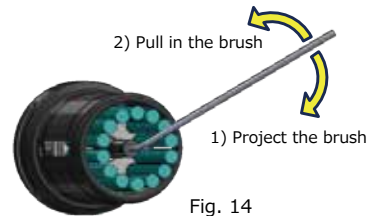

Fig. 14
- 1) Insert a hexagonal wrench into the hexagonal wrench notch at the tip of the rod to adjust the amount of projection. (Fig. 14)